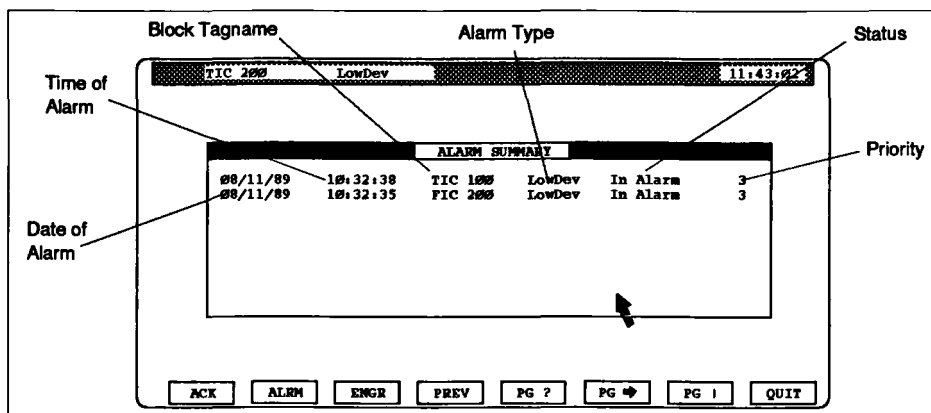

Figure 8.2 Alarm Summary Page (Example)
**ALRM Softkey.** Press ALRM (F2) to display the *Alarm Summary* page. Figure 8.2 shows an example. The summary lists all blocks currently in alarm, and also any with unacknowledged alarms of priority 6 or more, even if they are no longer in alarm. If a block has more than one type of alarm qualifying for listing in the summary, only the alarm with the highest priority is listed.